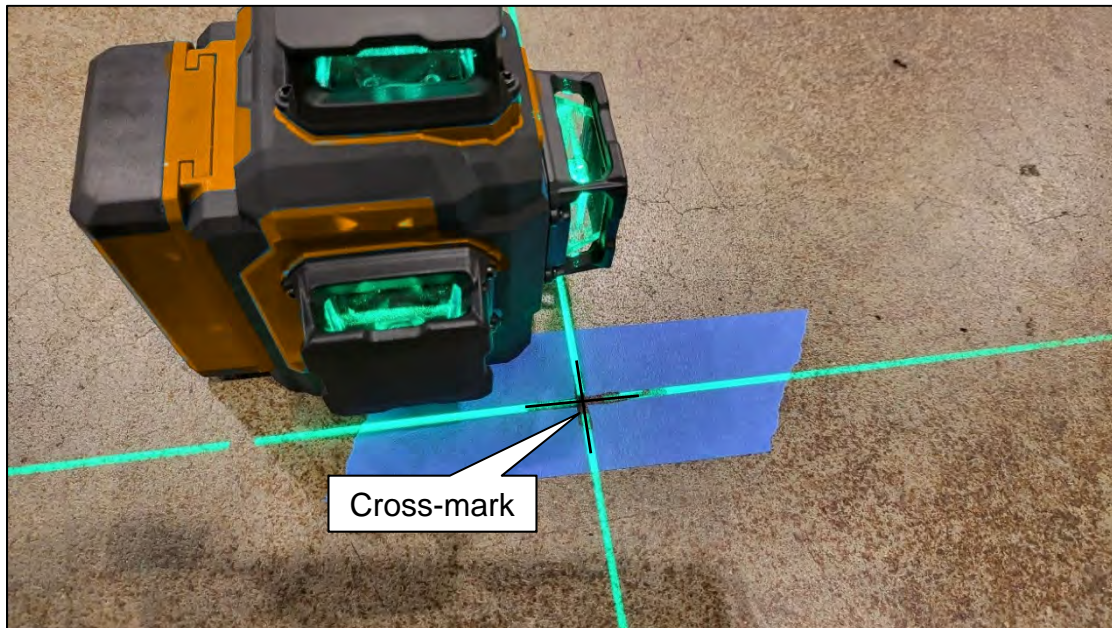

Figure 83
57. Place a cross-mark on the floor below the laser line (Figure 83).